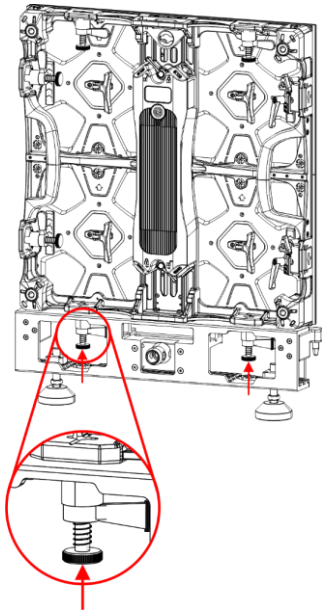

Fig. 42
- 03) Turn the **lever (C)** counterclockwise.
- 04) Push the left **spring-loaded fast-lock (D)** of the rigging bar upwards and turn it by 90° clockwise or counterclockwise, as shown in Fig. 42 and 43.